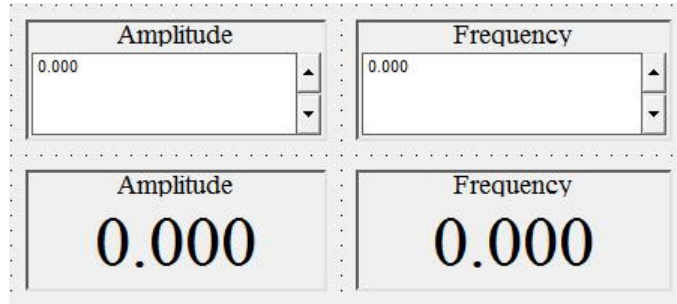

Figure 13: Numerical Input and Display after mapping the variables Amplitude and Frequency
- b. Click on **Amplitude**. You will see the parameter name **value** appears in the window next to the main window. Click on the parameter **value** and drag and drop it into one of the numerical input and display windows. Follow the same steps for **Frequency**. The color of the numerical input and display windows will change from red to gray as shown in Fig. 13.